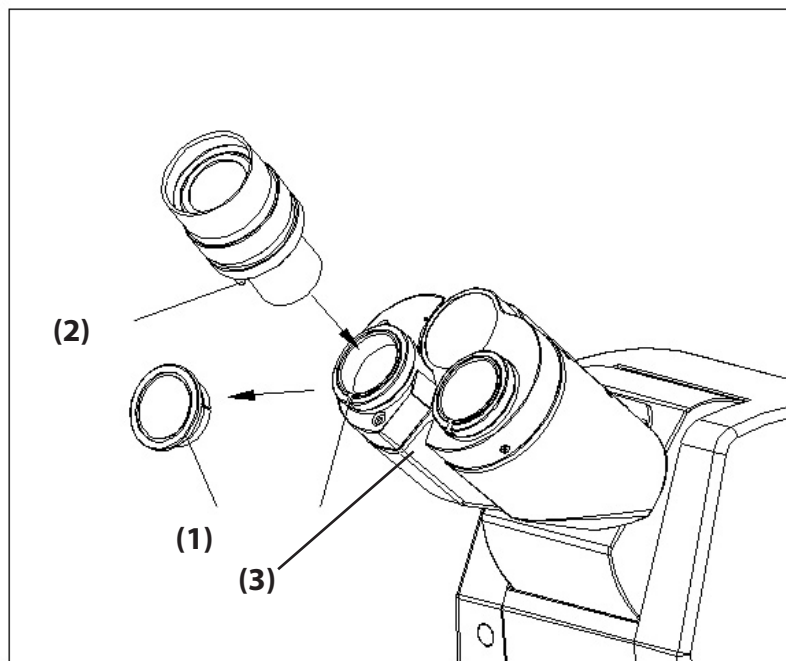

Figure 13
Refer to Figure 13 when assembling the eyepieces. Remove the plastic covers from the eyepieces (1). Insert an eyepiece (2) into each eyepiece tube (3), making sure to gently push it in as far as it can go.